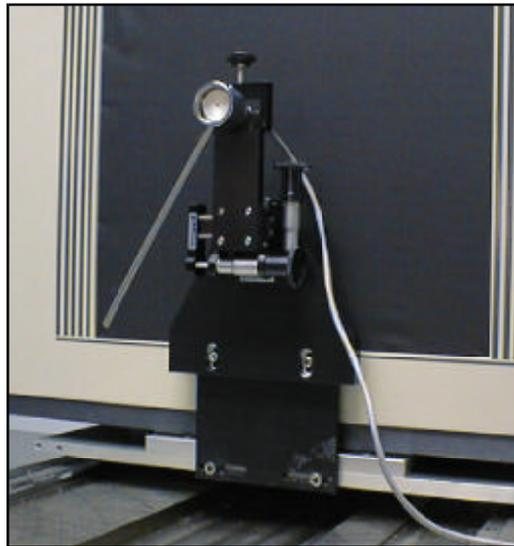

Figure 2-5. PIN diode, phosphor aperture on jig.
- 8) Slide the 0.5 mm phosphor aperture, Figure 2-4, onto the end of the probe assembly and tighten the set screw. (The phosphor aperture allows the beam to be located more easily.) Figure 2-5 shows the probe assembly with the phosphor aperture in place on the focusing jig.